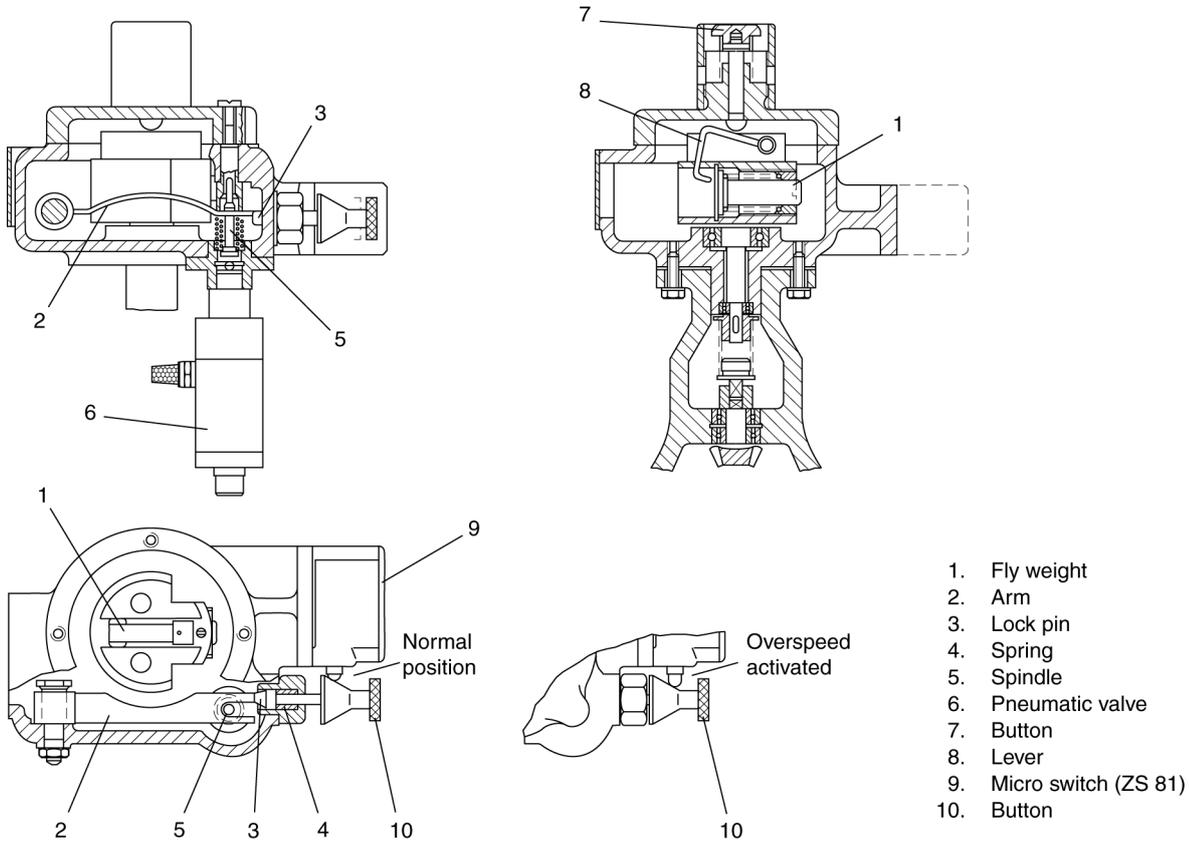

Figure 1: Mechanical overspeed.
If the pre-set tripping speed is exceeded, the springloaded fly weight (1), see fig 1, will move outwards and press down the arm (2).